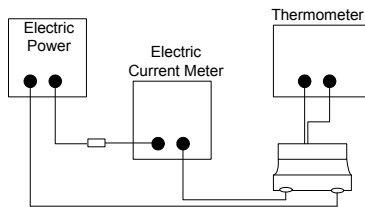

Fig. 5.3.4-1
- b. Test equipment (see Fig. 5.3.4-1, Fig. 5.3.4-2): Electric Power, Electric current meter, Thermometer.